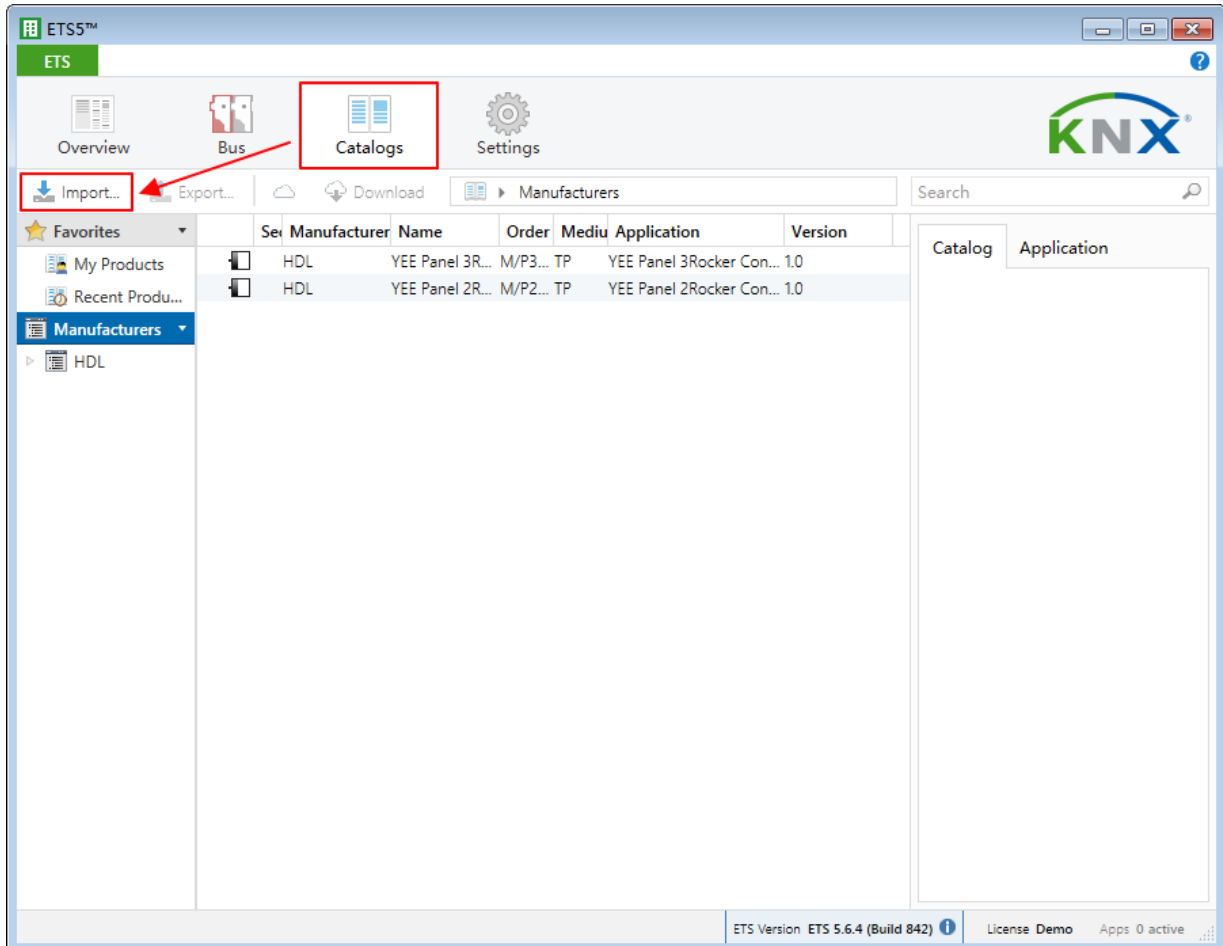

Figure 1-1 Import catalog
- Import Catalogs:** click “Catalogs” → “Import...” in the main page of ETS5 software and select local database files with the suffix of .knxprod, as shown in Figure 1-1.